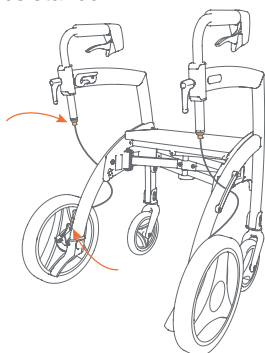

Figure 56: Brake adjustment via the adjustment screws at the top and bottom of the brake cable.
If the brakes do not work properly, they can be adjusted in two ways: at the top and bottom of the brake cable (**Figure 56**). The adjustment at the top of the brake cable (just below the height adjustment handle) is for fine-tuning, so the performance of the brake can be set a little tighter. The adjustment at the bottom of the brake cable (near the rear wheels) is for a more radical adjustment. Make sure that both the left and right brakes are properly adjusted.
- b. First loosen the locking ring (pull the cable down to make it easier). This gives you the space to tighten or loosen the adjustment screw under it (**Figure 56**).